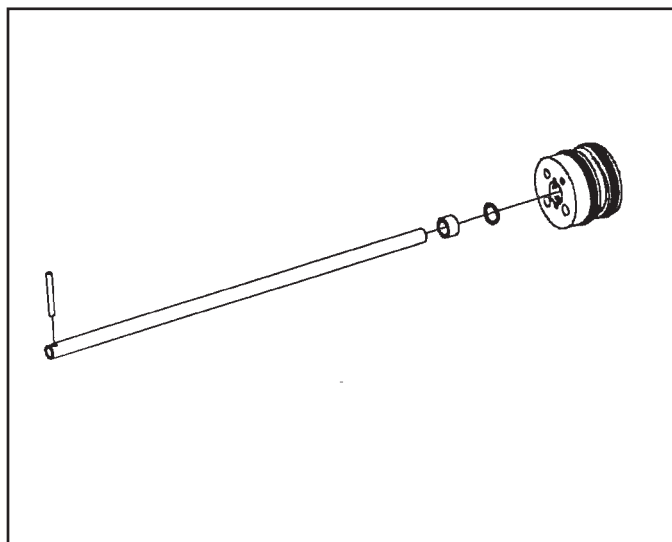

Figure 168
13. Install the roll pin in the 3rd clutch feed pipe and slide the spacer over the tube and up against the roll pin. (See Figure 168).
14. Carefully slide a new O ring onto the tube and push it down against the spacer (See Figure 168).
15. Slide the tube through the 1st, 2nd and 3rd clutch flange and seat the roll pin into the slots provided (See Figure 168).